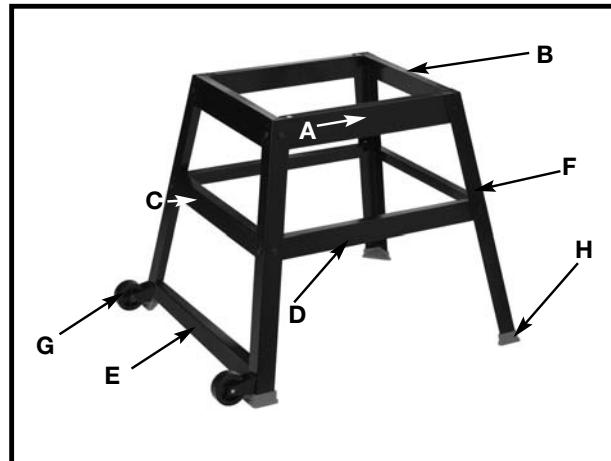
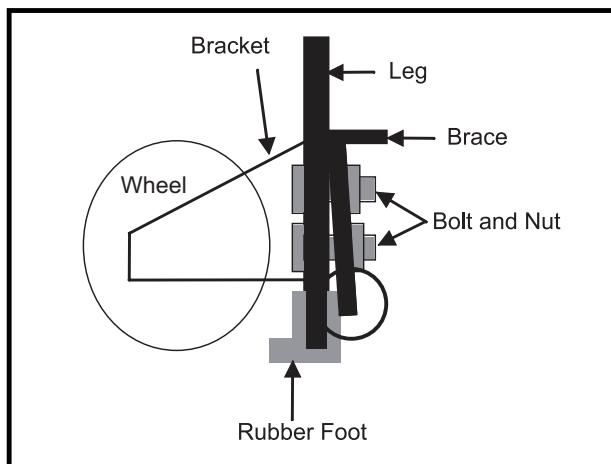

Fig. 11
Fig. 12
1. Attach the rubber feet (H) Fig. 11 to the bottom of each leg (F). Locate the two legs (F) which have holes at the bottom for attaching the wheel brackets (G) and brace (E). **(Make sure wheels and brackets are properly oriented. See inset Figure 12).** To attach the brackets, remove the nuts from the bolts and insert the bolts through the holes in the bottom of the two legs and into the holes in brace (E). Thread the nuts back on the bolts and tighten. Assemble the stand as shown in Fig. 11, using 16 M8x1.25x20mm carriage head bolts, 3/8 inch flat washers and M8x1.25 hex nuts. Align the holes in the stand legs (F) with the holes in the brackets. Insert the carriage head bolt through the hole in the leg and the hole in the bracket, place a flat washer on the carriage head bolt and thread a hex nut onto the carriage head bolt. Repeat this process for the 15 remaining holes in the legs and brackets.